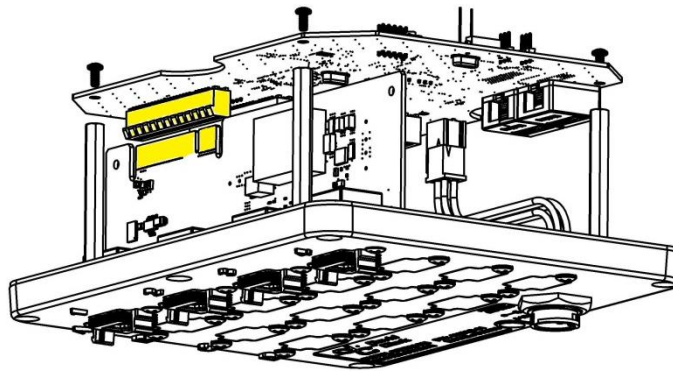

Figure 11.3 Main PCB and Add-In Card Assemblies
5. Remove the four screws which attach the main PCB assy to the standoffs (**Figure 11.3**).
1. Gently attach the main PCB assy to the cover assy, ensuring the “fingers” on the add-in cards line up with and insert fully into the connectors on the main PCB assy (**Figure 11.3**).